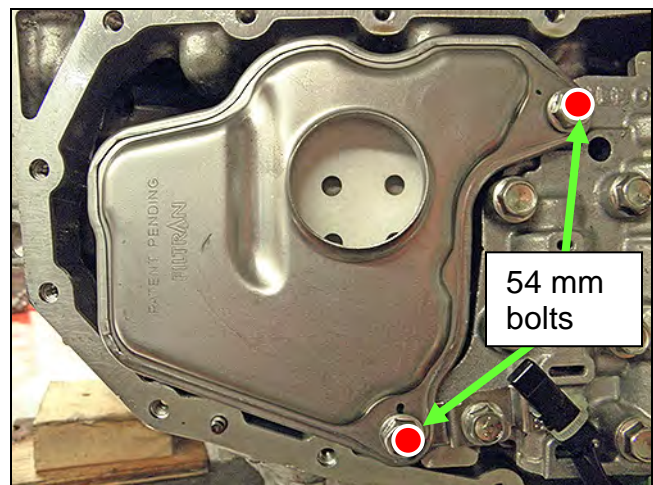

Figure 24
7. Install the new oil strainer with its new O-ring seal with two (2) bolts (Figure 24).